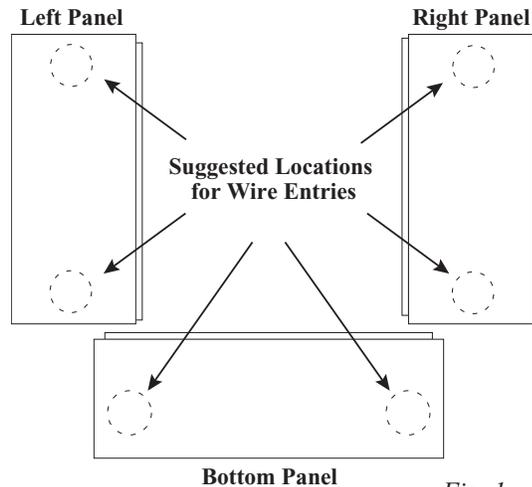

Fig. 1
1. Remove back plate inside the enclosure by removing four (4) mounting screws.
2. Mark and drill desired knockouts on the enclosure to facilitate wiring (Fig. 1, pg. 1).